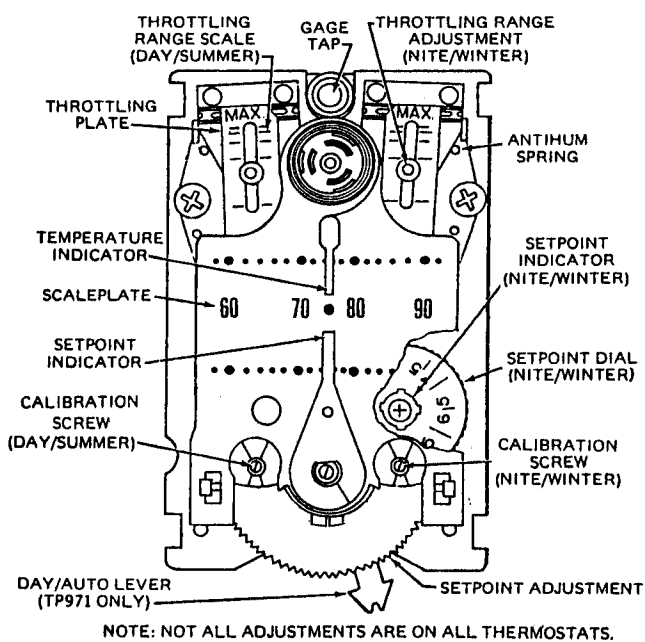

Fig. 21. TP971 and TP972 Controls and Indicators, Front View with Cover Removed.
1. Remove cover and install 0 to 30 psi (0 to 210 kPa) gage in gage tap (Fig. 21).
2. Insert gage using gage adapter into gage tap (Fig. 21) to read BLP. If the results in Steps 3 or 5 are not correct, go to CHANGEOVER CALIBRATION.
2. Turn setpoint indicator adjustment (Fig. 21) up slowly.
2. Turn setpoint indicator adjustment (Fig. 21) down slowly.
NOTE: Before proceeding with recalibration, be sure the antihum spring(s) (Fig. 21) just touches the throttling plate and is not wedged against it.
3. With 13 psi (90 kPa) day main air pressure, turn the day (left) calibration screw (Fig. 21) until the gage indicates 0 psi.
3. With 13 psi (90 kPa) summer main air pressure, turn the summer (left) calibration screw (Fig. 21) until the gage indicates 0 psi.
NOTE: If the thermostat has a setpoint dial (Fig. 21), it must be set to the indicated temperature before returning to Steps 3 and 4.